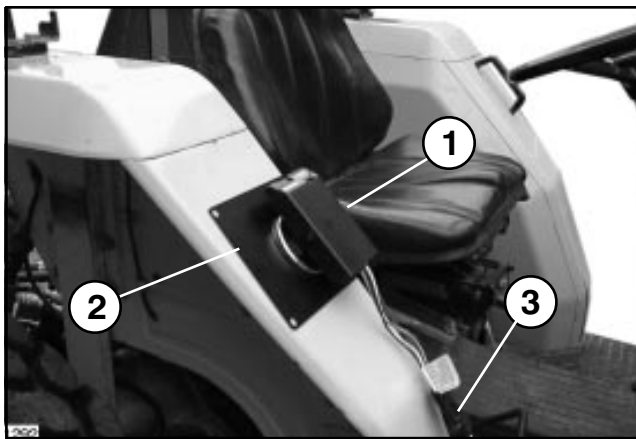

FIG. 1
1. Select a convenient, flat surface on your Tractor's right hand fender to mount the brake controller. See FIG. 1. If the Tractor has plastic fenders, use the Mounting Plate provided to establish a magnetic surface.
2. Use the Mounting Plate as a template and drill four (4) 9/32 inch diameter holes in the fender.
3. Secure the mounting plate to the fender with four (4) 1/4" x 3/4" screws, lockwashers, flat washers and hex nuts. See Fig. 1.